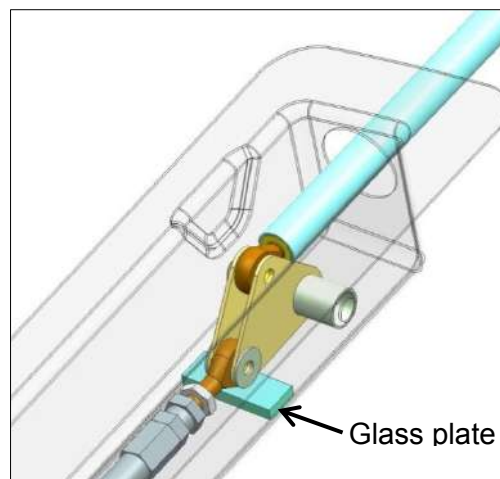

Figure 27-23: Glass plate
- If the unlocking force is too high, first place a thin spacer on top of the existing plate (Figure 27-23) and measure the force. If the force is still too high, increase the thickness until a satisfactory value is obtained. Measure the thickness of the spacer used and bond a glass plate of the same thickness to the top of the glass plate.